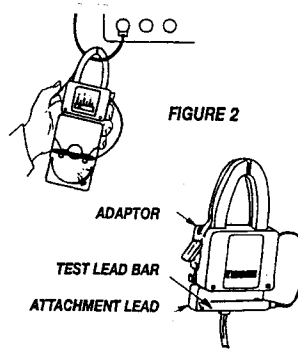

FIGURE 3
2. Install the adaptor on the top of the attachment lead (PN 79-416). Rotate the lever back against the adaptor (See Figure 3).
3. Plug test lead bar into attachment lead (See Figure 3).